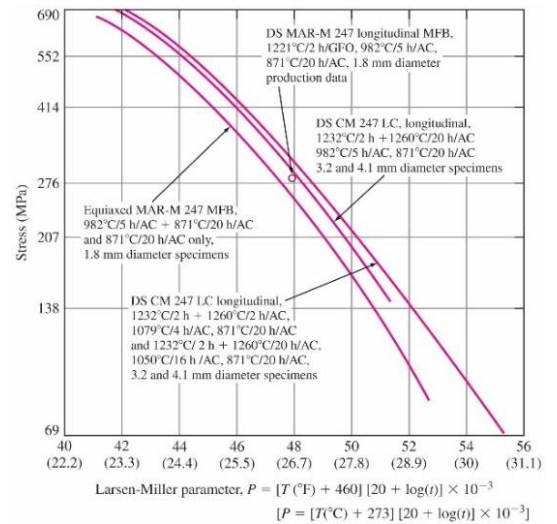

Fig. 7.31
(n) Equiaxed MAR-M 247 MFB alloy is to support a stress of 138 MPa (Fig. 7.31). Determine the time to stress rupture at 900 °C.
$$\text{From Fig. 7.31: } P(\text{L.M.}) = [27.8 + (28.9 - 27.8)4/10] \times 10^3 \text{ ①} = 28240 \text{ ①}$$